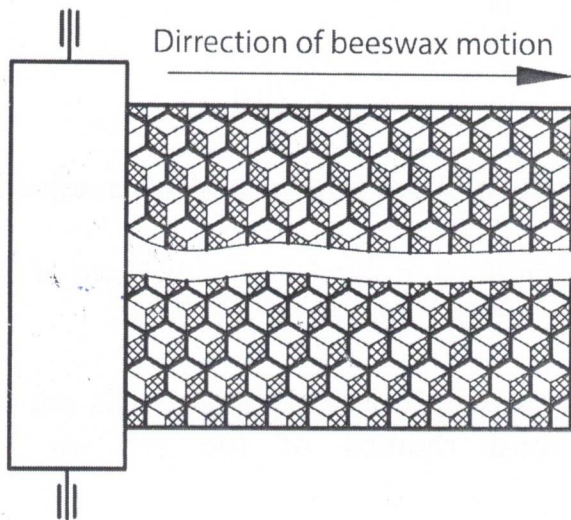

Fig.13
4.3.3. In the front part of the beeswax honeycomb base sheet, there are the thickened second rhombs of the sell, and in the rear part of the sheet there are the thickened third rhombs or otherwise (Figs 13, 14).